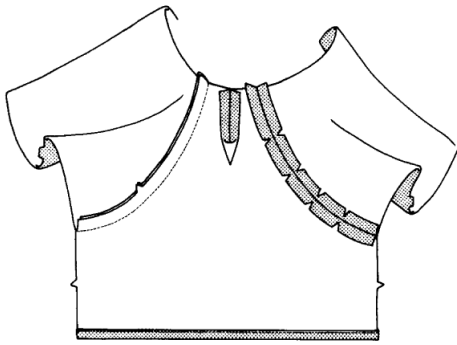

Figure 23
2. With right sides of fabric together, pin sleeve to garment front and back, matching notches. Stitch. Notch garment seam allowance as needed and clip sleeve seam allowance as needed for seam to press open and lie flat. Press seam open. Use a seam finish appropriate for fabric and situation (Figure 23).